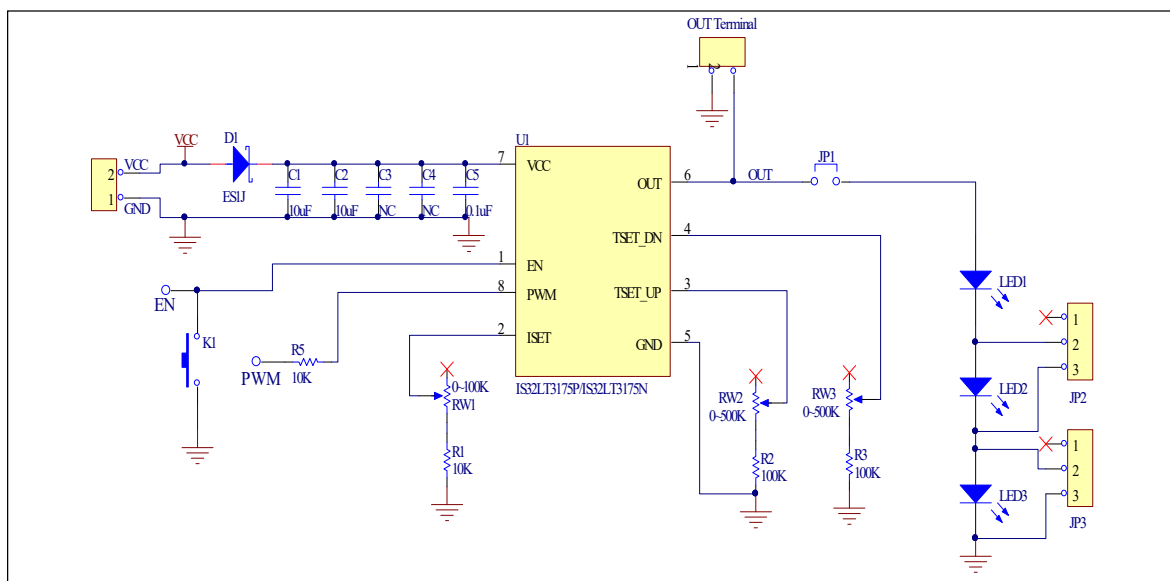

Figure 2: IS32LT3175N/P Application Schematic
- with an ohm meter across ISET and GND pins. Use this measured resistor value to replace the variable resistor RW1 and R1 (see schematic Figure 2).
- 3) The fade in time is adjusted by the variable resistor (RW2). Turn RW2 counter clockwise to decrease fade in time, and clockwise to increase fade in time. Once the desired fade in time is set, measure the resistor value across TSET_UP and GND. Use this measured resistor value to replace the variable resistor RW2 and R2 (see schematic Figure 2).
- 4) The fade out time is adjusted by the variable resistor (RW3). Turn RW3 counter clockwise to decrease fade out time, and clockwise to increase fade out time. Once the desired fade out time is set, measure the resistor value across TSET_DN and GND. Use this measured resistor value to replace the variable resistor RW3 and R3 (see schematic Figure 2).
Bill of materials, refer to Figure 2 above.